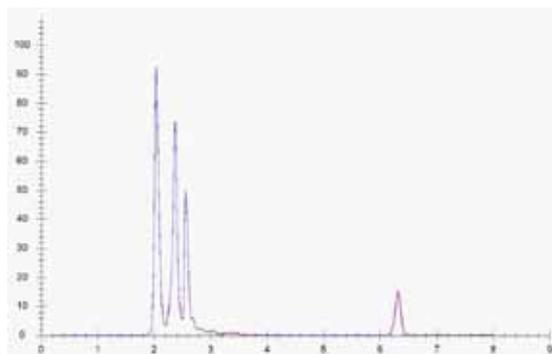

Figure 5 Chromatogram of blank milk sample
A) Figure 5 shows the chromatogram of blank milk sample.